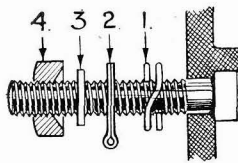

Fig. 27.
All four connections, namely the two ends of the earthing tag and the two ends of the coil, should be soldered. The coil end leading to the terminal should be soldered to its tag and not to the retaining nut. In the case of the terminal screw which holds the bakelite cover in position, similar considerations apply, the assembly being:—Spring washer (1), wiring tag (2), lead washer (3), and recessed nut (4), see Fig. 27. A lead washer has been found necessary at this point as some few cases of bad connection have been found. Under no circumstances must the spring washer be omitted, or the assembly shortened in any way. Any attempt to do so is likely to lead to breakage of the pedestal when the nut retaining the cover in position is tightened up.